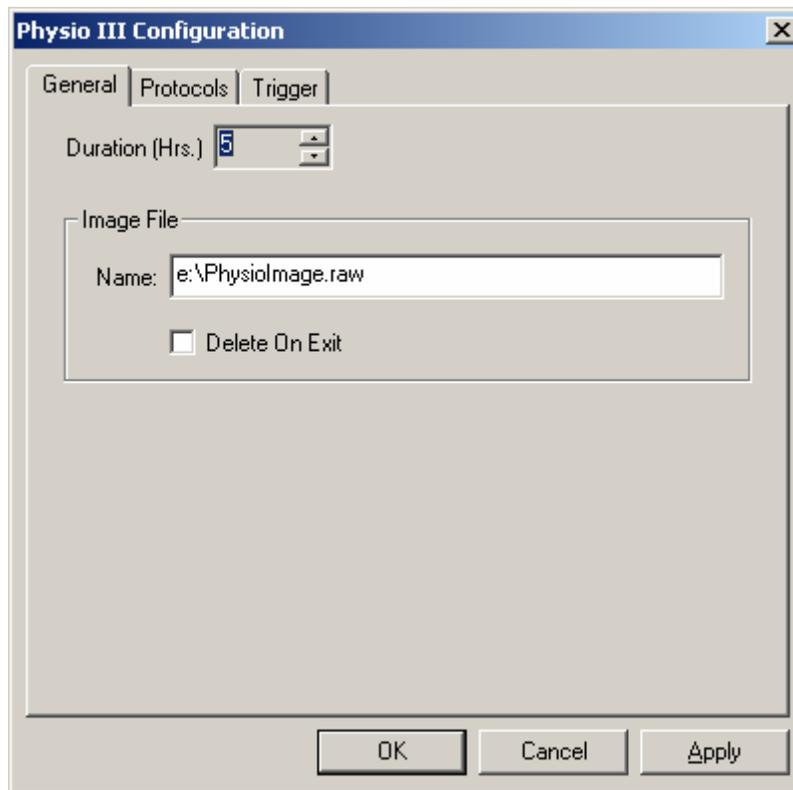

Figure 01
3. Double-Click on “PHYSIO III CONFIGURATION”. The next screen will appear (**Figure 01**):